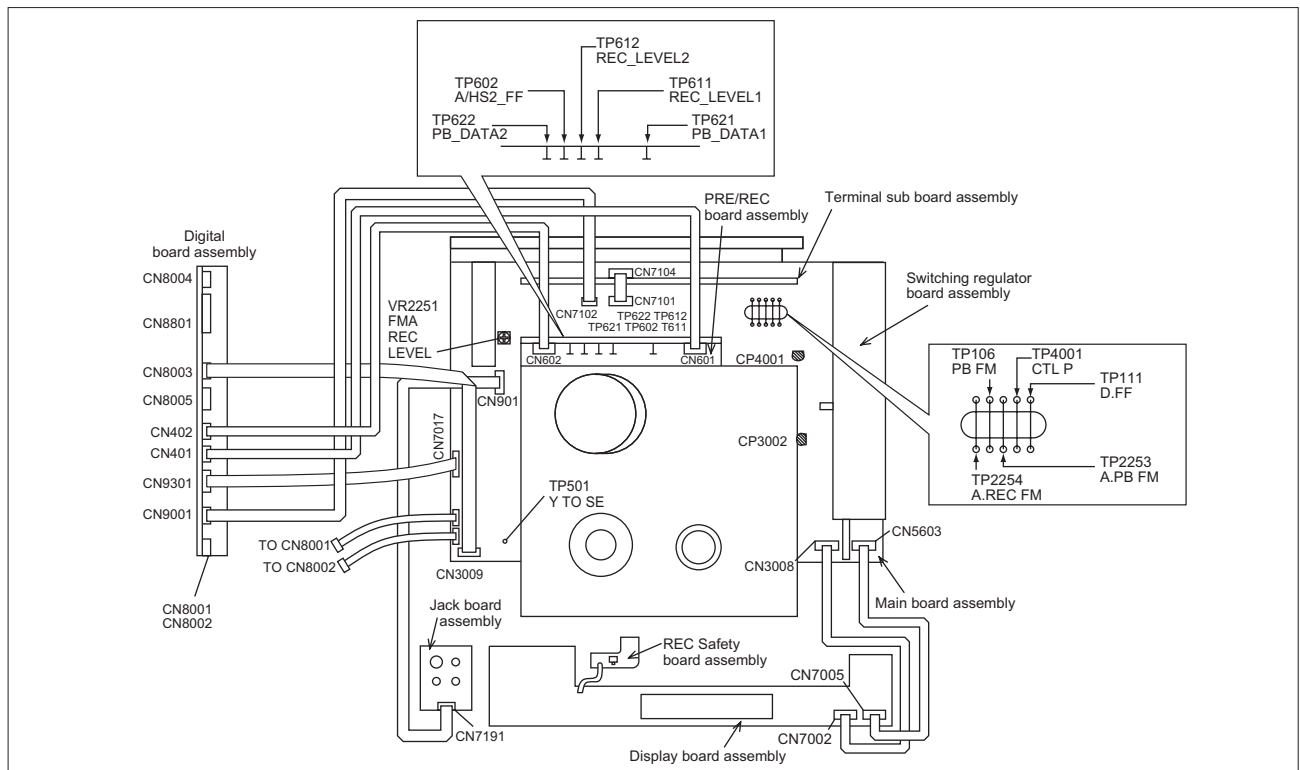

Fig.2-4-1a
- (1) Refer to the disassembly procedure and perform the disassembly of the major parts before removing the PRE/REC board assembly.
- (2) Remove the screws attaching the mechanism assembly with the chassis assembly. Remove the screws attaching the board assembly, if necessary.
- (3) Remove the combined Mechanism and Main board assemblies.
- (4) Connect the wires and connectors of the major parts that have been removed in step (1). (Refer to Fig.2-4-1a.)
- (5) Place the combined Mechanism and Main board assemblies upside down.
- (6) Insert the power cord plug into the power outlet and then proceed with the diagnostics and servicing of the board assembly.